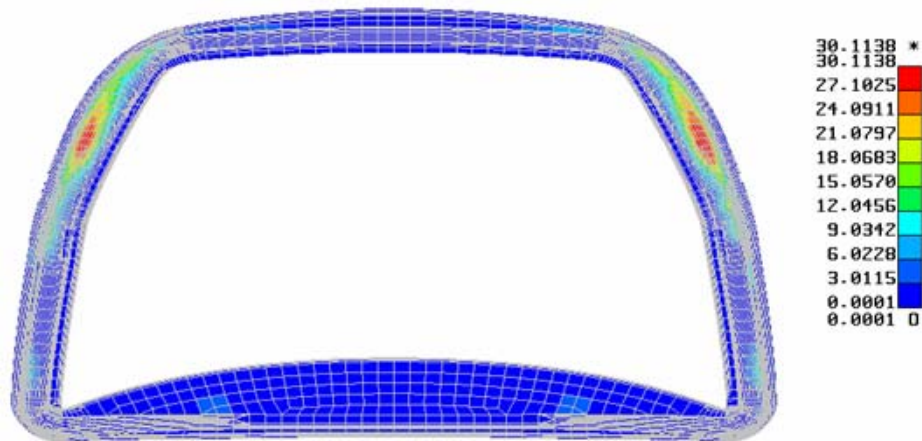

Figure 6.4.11 Contour of the Evaluate
After two set of elements are selected and the direction is defined, the user can click this button to show the result. Figure 6.4.11 illustrates the result after Evaluate operation.
3. TEAR DROP (DRAW BAR WITHOUT MAIN BODY). Figure 6.4.11 shows the parameters in the dialog box.